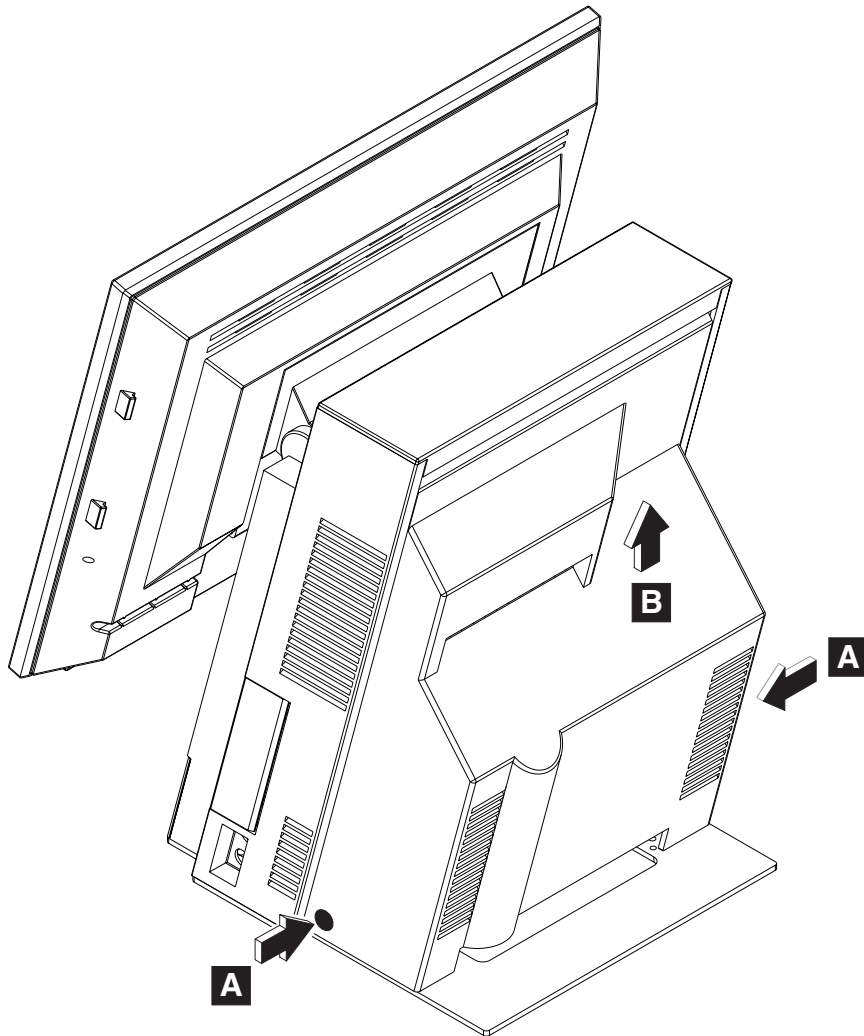
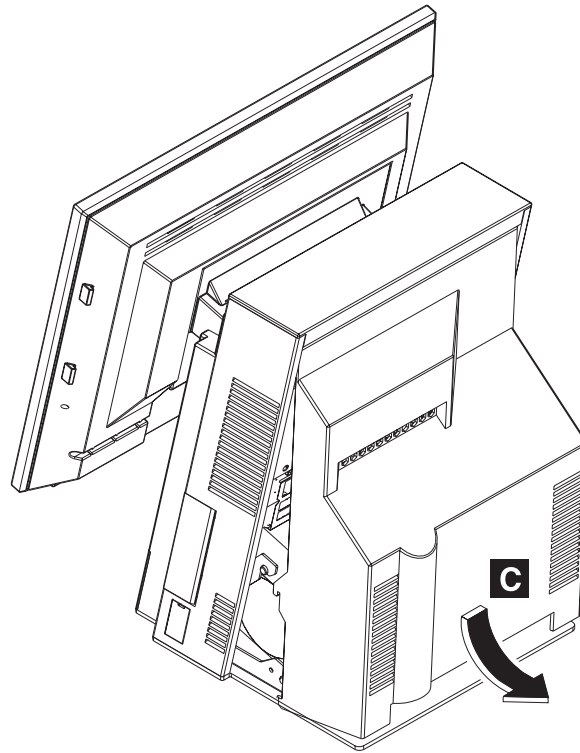

Figure 18. Unlatching rear cover
Figure 19. Removing rear cover
2. Facing the rear of the system, press in on both sides **A** , and lift upward **B** , as shown in Figure 18 and Figure 19 on page 39, rotating the bottom of the cover toward the back **C** .